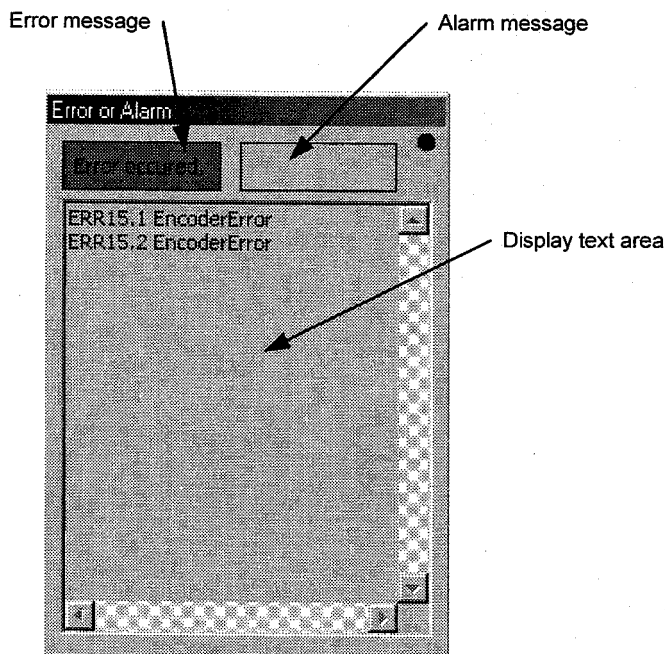

Figure 7.13 “Error or Alarm” dialog box
(4) Error or alarm monitor
In the “Terminal,” click “*Error or Alarm (S)*” under “Monitor” to display the “Error or Alarm” dialog box (see figure 7.13).